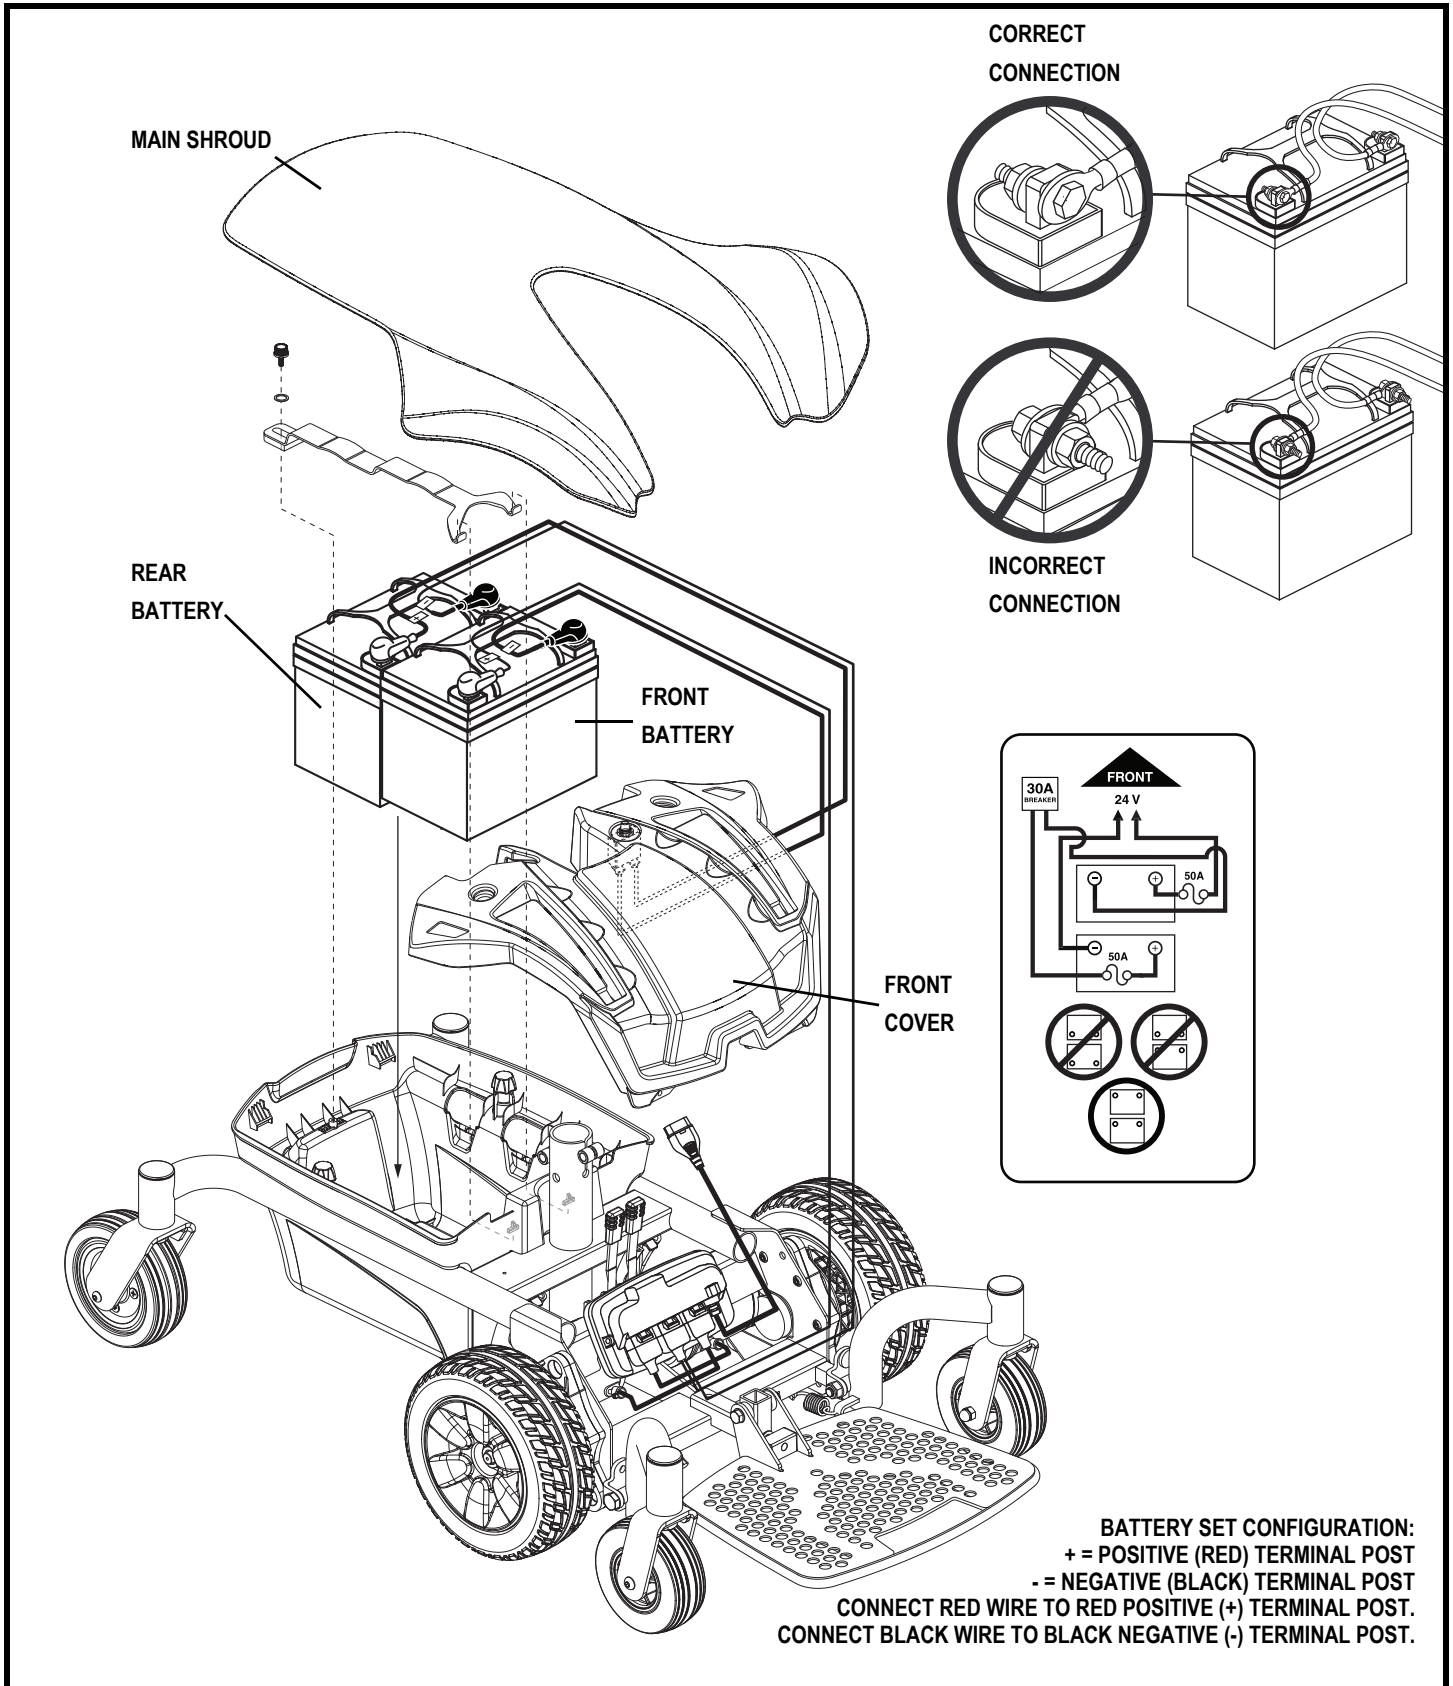

Figure 19. Battery Installation (Seat Removed for Clarity)
4. Remove the main shroud by lifting the rear of the main shroud until it disconnects from the body shroud. Once disconnected from the body shroud, slide the main shroud forward until the tabs are free from the body shroud. Lift the shroud up and over the seat post. **See figure 19.**
5. Unfasten the battery strap. **See figure 19.**
6. Disconnect the battery cables from the battery terminals of each battery. **See figure 19.**
8. Install new batteries into the battery tray. Make sure the terminals of each battery are facing the front of the power chair. **See figure 19.**
9. Connect the front battery cable to the front battery terminals according to the battery wiring diagram. Make sure that the positive (+) cable is connected to the positive (+) terminal and the negative (-) cable is connected to the negative (-) terminal and that the battery terminal hardware is facing the correct direction. **See figure 19.**
10. Connect the rear battery cable to the rear battery terminals according to the battery wiring diagram. Make sure that the positive (+) cable is connected to the positive (+) terminal and the negative (-) cable is connected to the negative (-) terminal and that the battery terminal hardware is facing the correct direction. **See figure 19.**